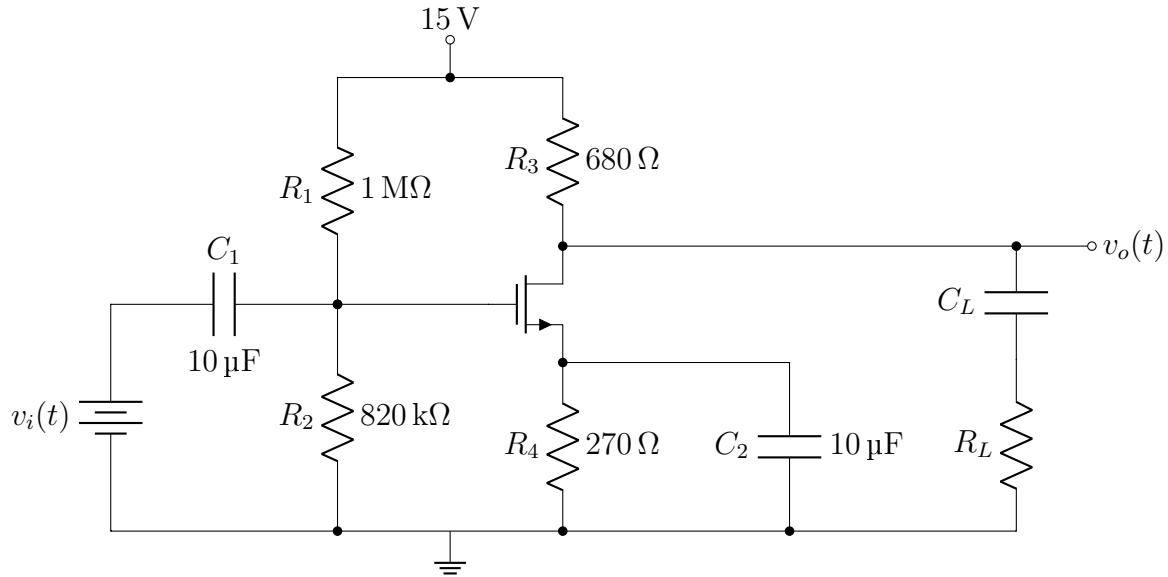

Figure 4: Circuit Used to Characterize MOSFET Amplifier Gain and Load Limits
5. Now attach a load as shown in Fig. 4 to the amplifier output.  $C_L$  should be 1 μF and  $R_L$  should be 100 Ω. Carefully measure and record the total output voltage  $v_o(t)$ . Carefully measure and record the total output voltage  $v_o(t)$ .